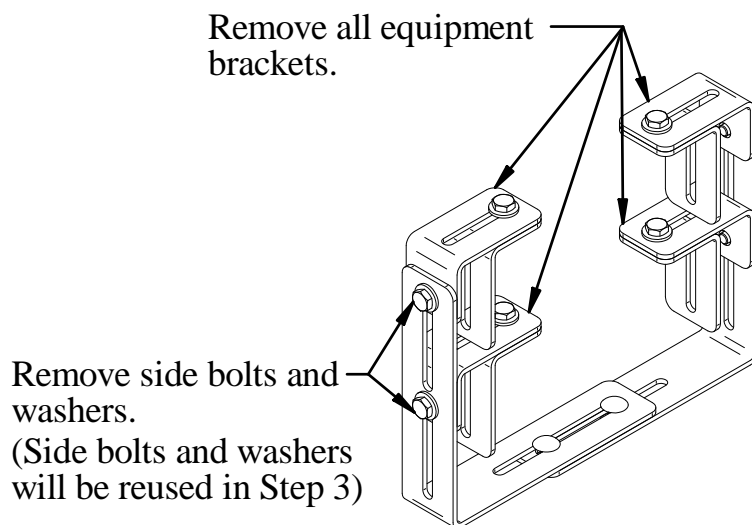
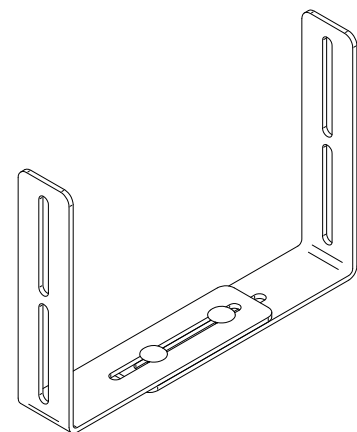

Figure 1a
Figure 1b
Step1. Remove all equipment brackets from the assembly by removing the side bolts and washers leaving only the bottom two brackets, Figure 1a. The remaining assembly should look like Figure 1b. Save all bolts and washers for use in step 3.